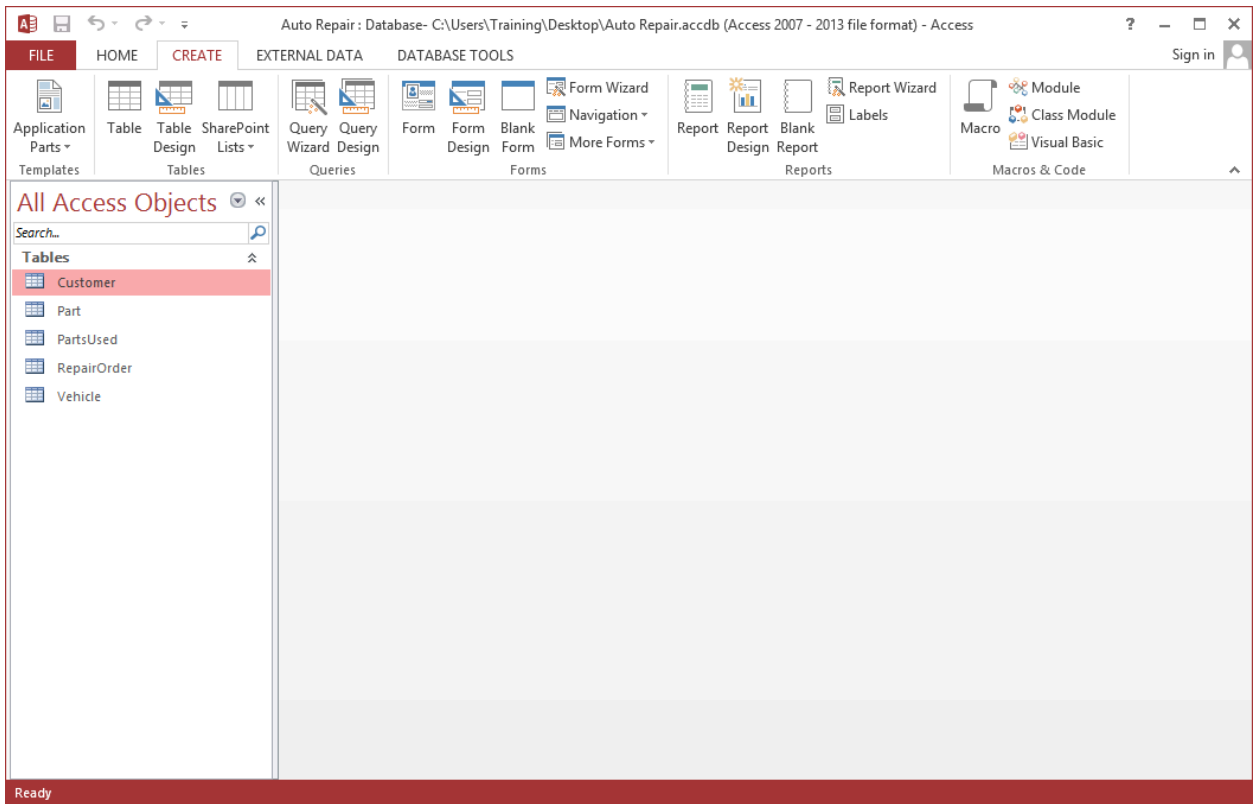
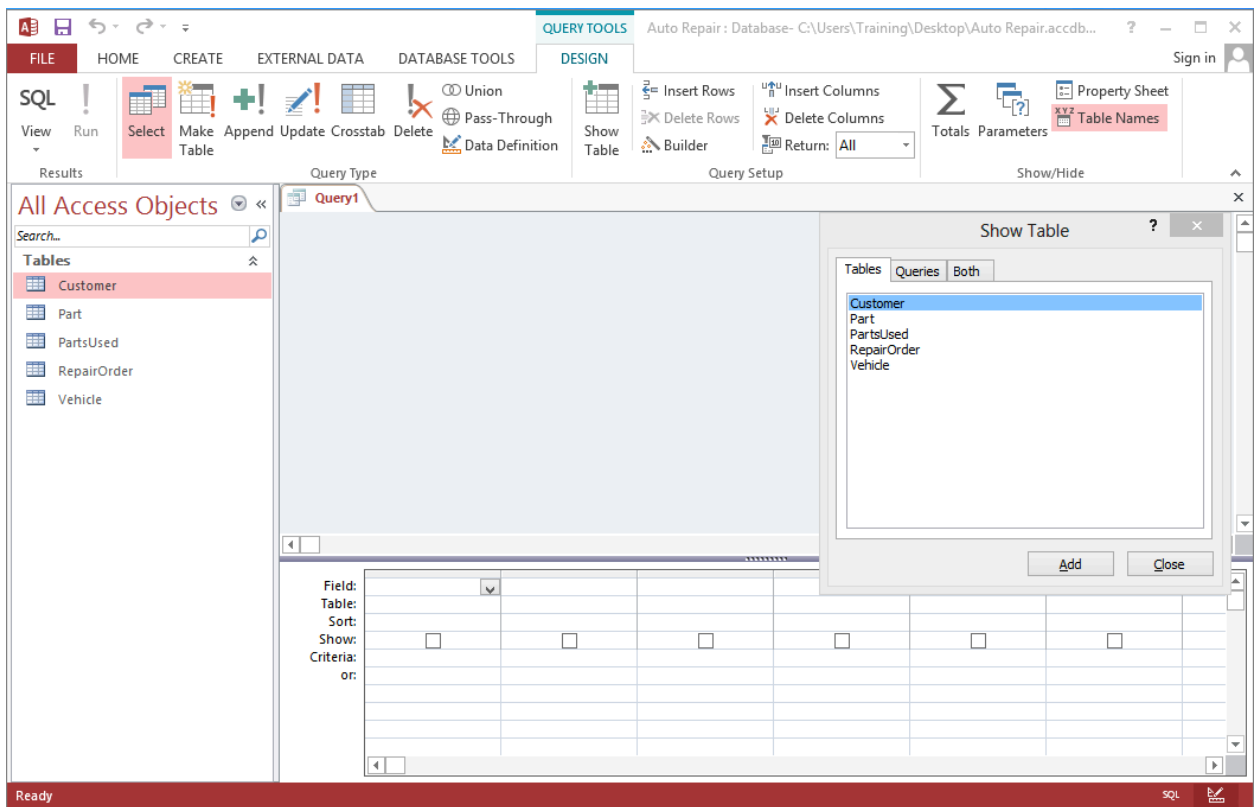
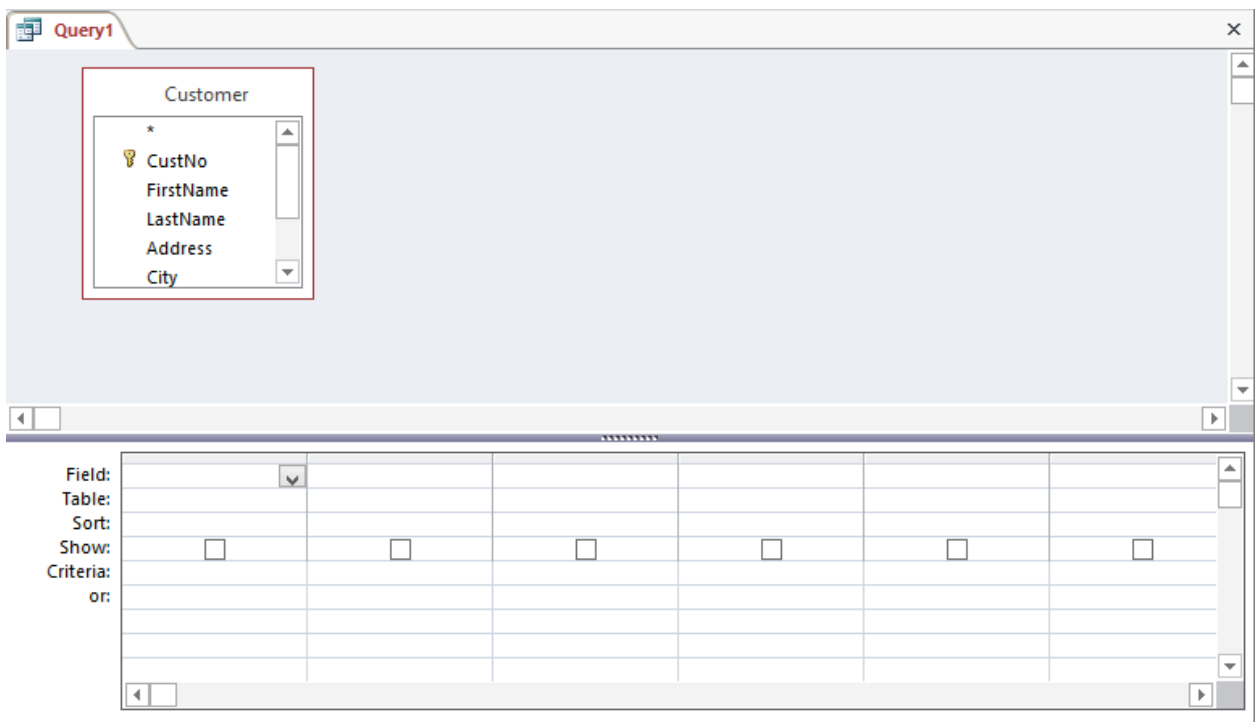

Figure 1: Navigation Pane with Empty View Pane
Figure 2: Query Design Pane and Show Table Window
Figure 3: Query Design Area with *Customer* Table
1. **Open the Auto Repair Database:** Start Access and open the auto repair database (AutoRepair.accdb) that you created in Chapter 2. The navigation pane should show the tables that you created in Chapter 2 (Figure 1). Choose **Create → Query Design** in the Queries group to open Query Design in the view pane (Figure 2).
2. Select a Table/Query: Query Design appears in the view pane with the Show Table window on top of it (Figure 2). You must select a table or existing query to include in the new query. Select the *Customer* table, click the **Add** button, and then click the **Close** button. Figure 3 shows the Query Design pane containing the *Customer* table.